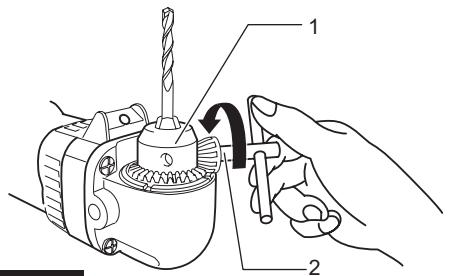

Fig.5
► Fig.5: 1. Drill chuck 2. Chuck key